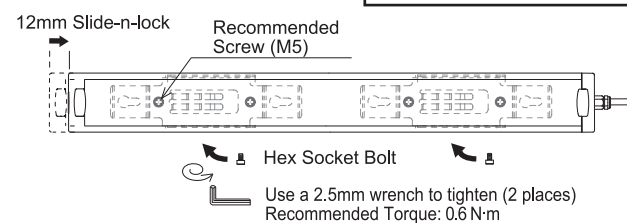

Figure 7. Slide Installation -2
- Moreover, when sliding the Main Unit onto the Standard Bracket, allow a clearance of at least 12mm on both ends to allow attachment and removal. Refer to Figure 4. "Slide Installation -1" and Figure 7. "Slide Installation -2."